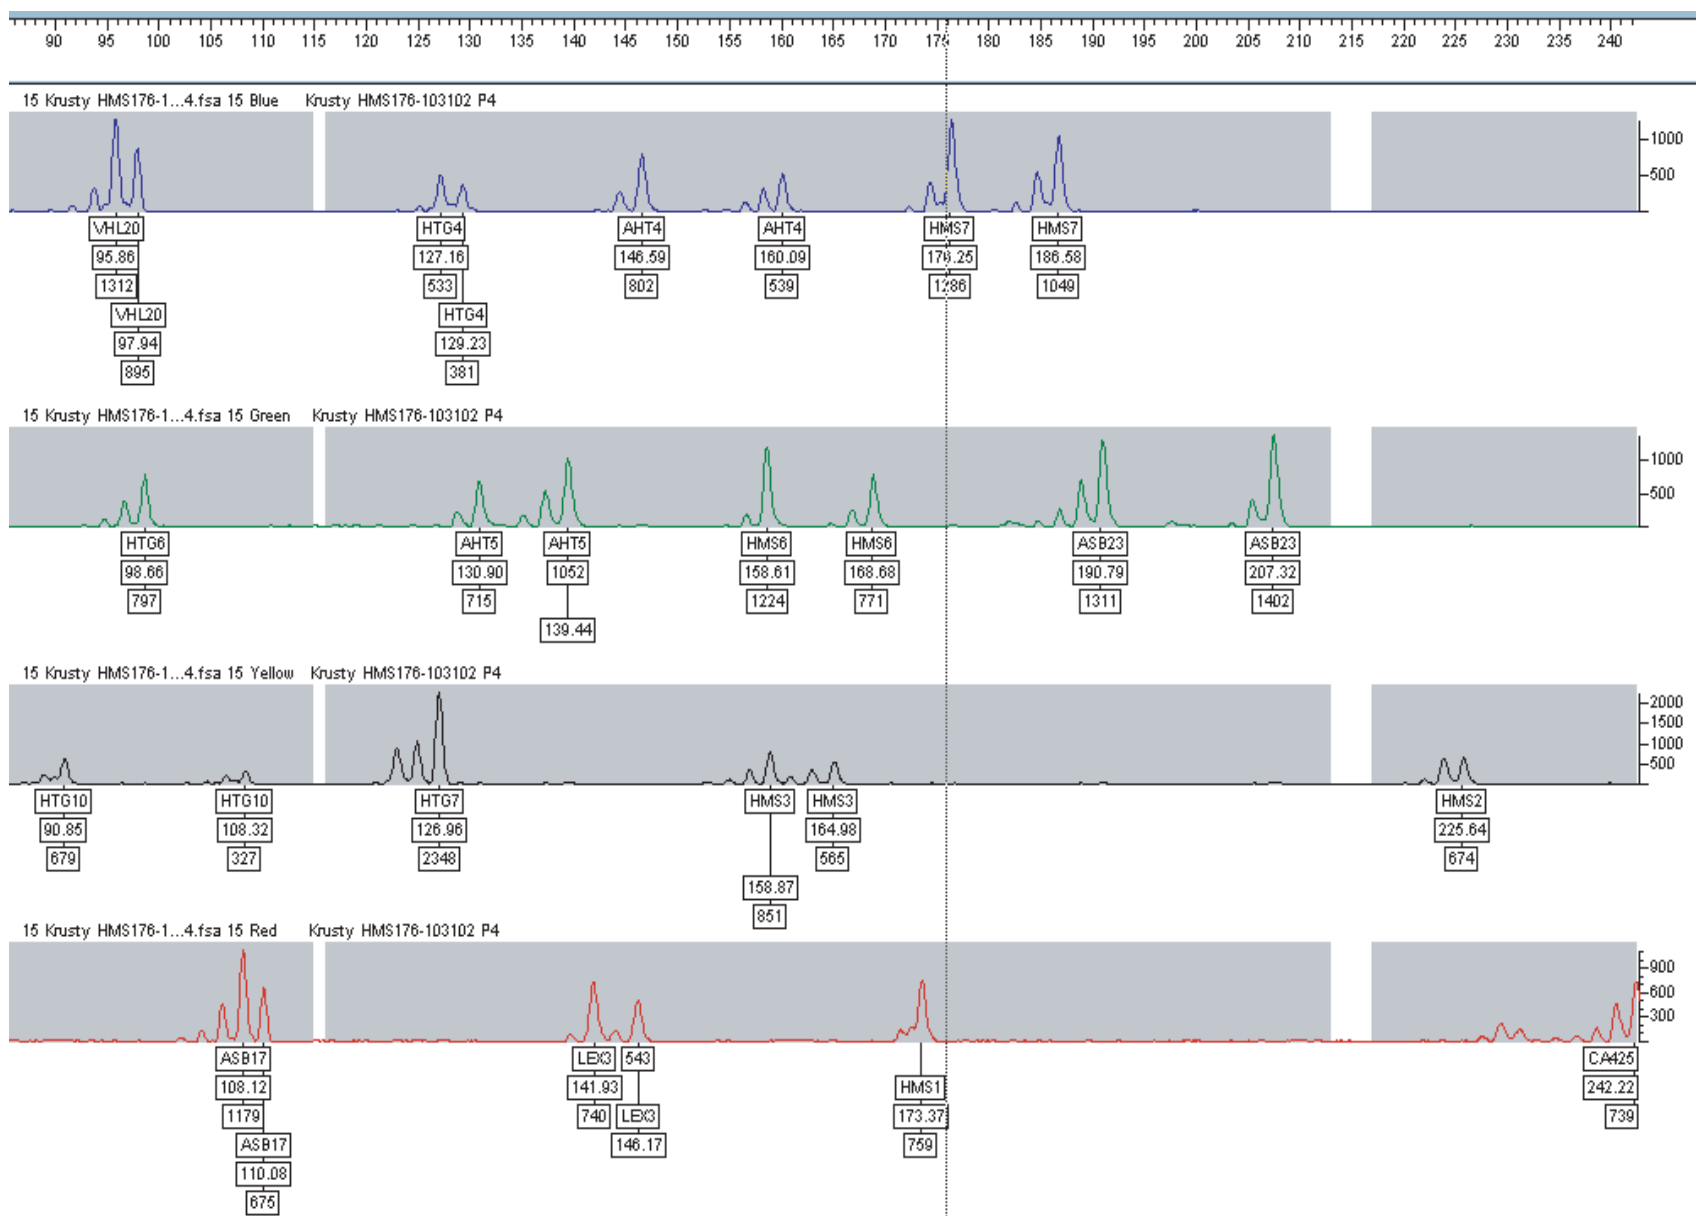

Figure 3 Genotyper™ software analysis of PCR amplification products using equine control DNA separated on the Applied Biosystems® 377 DNA Sequencer
- Applied Biosystems® 377 DNA Sequencer (Figure 3 on page 25)